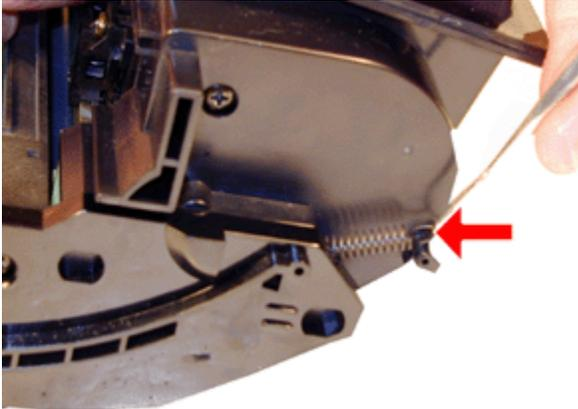

FIGURE 44
39. Attach the spring from the end cap to the toner hopper post. See Figure 44